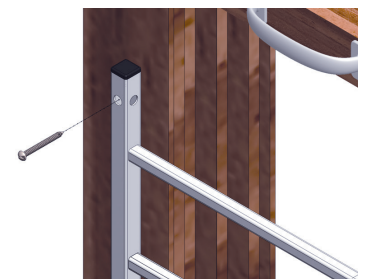

FIGURE 4
2. Fasten guard to window frame using the four (4) 1" screws provided. Keep the guard level from one side to the other. Screws should be fastened into a solid stud or frame to achieve maximum safety. (figure 4)